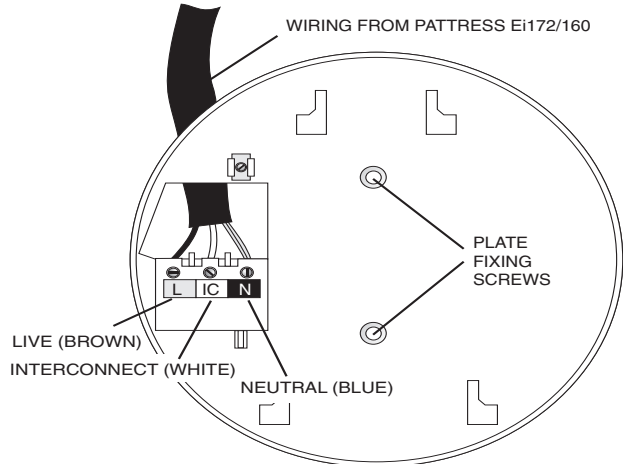

Figure 2
7. Bring the mounting plate wires out through the hole in the mounting plate as shown in figure 2. Connect the three wires to the mounting plate terminals following the wiring colours specified in figure 2. **Note: The white interconnect wire must be connected** to the smoke alarm (even if there is only one smoke alarm on the system).